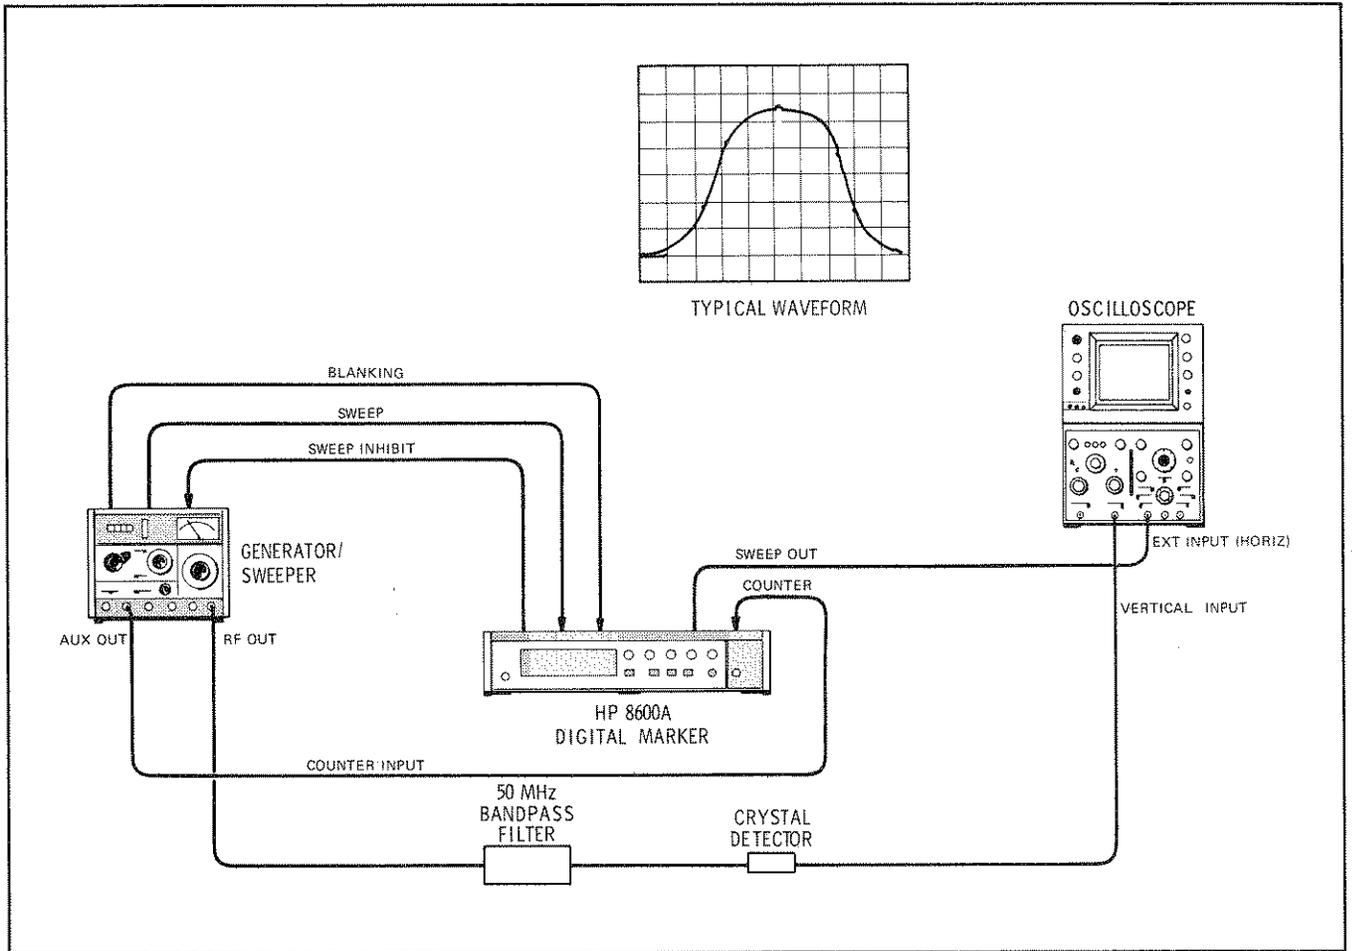

Figure 3-2. Oscilloscope Interconnections and Typical Waveform
a. Interconnect the equipment as shown in Figures 3-2, 3-3 or 3-4.
3-12. Connect the equipment as shown in Figure 3-2. The output response of any device within the frequency range of the Generator/Sweeper may be displayed on the oscilloscope CRT. The response curve shown in Figure 3-2 is that of a 50 MHz bandpass filter; the model 8601A Generator/Sweeper is in symmetrical mode and is being swept from 45 to 55 MHz.